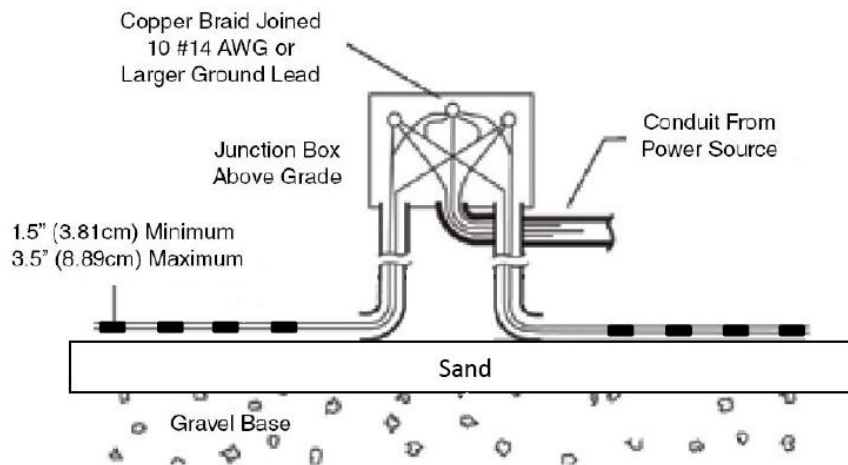

Fig.6.
- When the slab can be walked on, make splices within the junction box and install the feeder lines. Twist together a length of the copper grounding braid from all leads and positively connect to a continuous 14 AWG or larger insulated copper wire extending to the distribution panel around. Refer to Fig.6.